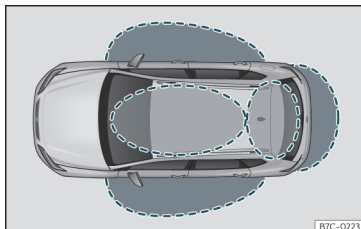
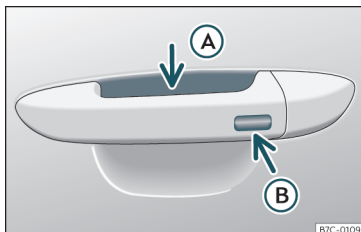

Fig. 71 Keyless Access: proximity zones.
Fig. 72 Keyless Access locking and ignition system
in the detection area where you are attempting to access the vehicle >>> Fig. 71 and to touch one of the sensor surfaces on the door handles >>> Fig. 72 or operate the *soft-touch*/handle on the rear lid >>> page 98 >>> ❶.
If a valid key is in the proximity of the car, >>> Fig. 71 the Keyless Access locking and starting system gives the key entry as soon as one of the sensor surfaces on the door handles is touched or the *softtouch*/handle on the rear lid is operated. The following features are then available without having to use the vehicle key actively:
- Grip one of the front door handles. When you do this, you touch the sensor surface >>> Fig. 72 (A) (arrow) of the handle and the vehicle unlocks.
- Touch (*once*) the locking sensor surface >>> Fig. 72 (B) (arrow) on one of the front door handles. The door that is used must be closed.
- Touch (*once*) the sensor surface >>> Fig. 72 (B) (arrow) on one of the front door handles. The vehicle locks with the "Safe" security system >>> page 93. The door that is used must be closed.
- Touch (*twice*) the sensor surface >>> Fig. 72 (B) (arrow) of one of the front door handles to lock the vehicle without activating the "Safelock" security system >>> page 93.
When the vehicle is locked, the rear lid automatically unlocks on opening if there is a valid vehicle key in the proximity >>> Fig. 71.
- Push the central locking button  on the remote control and touch the locking sensor surface of the driver door handle >>> **Fig. 72 B** within the following 5 seconds. Do not grasp the door handle; otherwise the vehicle will not unlock. Deactivation is also possible if the vehicle is locked through the driver's door lock.
To close all the electric windows and the sunroof using the **comfort function**, keep a finger for a few seconds on the locking sensor surface >>> **Fig. 72 B** (arrow) of the door handle until the windows and roof have closed.
The sensor surfaces on the door handles could engage if hit with a water jet or high pressure steam if there is a valid vehicle key in the proximity. If at least one of the electric windows is open and the sensor surface >>> **Fig. 72 B** (arrow) on one of the handles is activated continuously, all windows will close.
- **OR:** touch the sensor surface on the outside of the door handle *twice* >>> Fig. 72